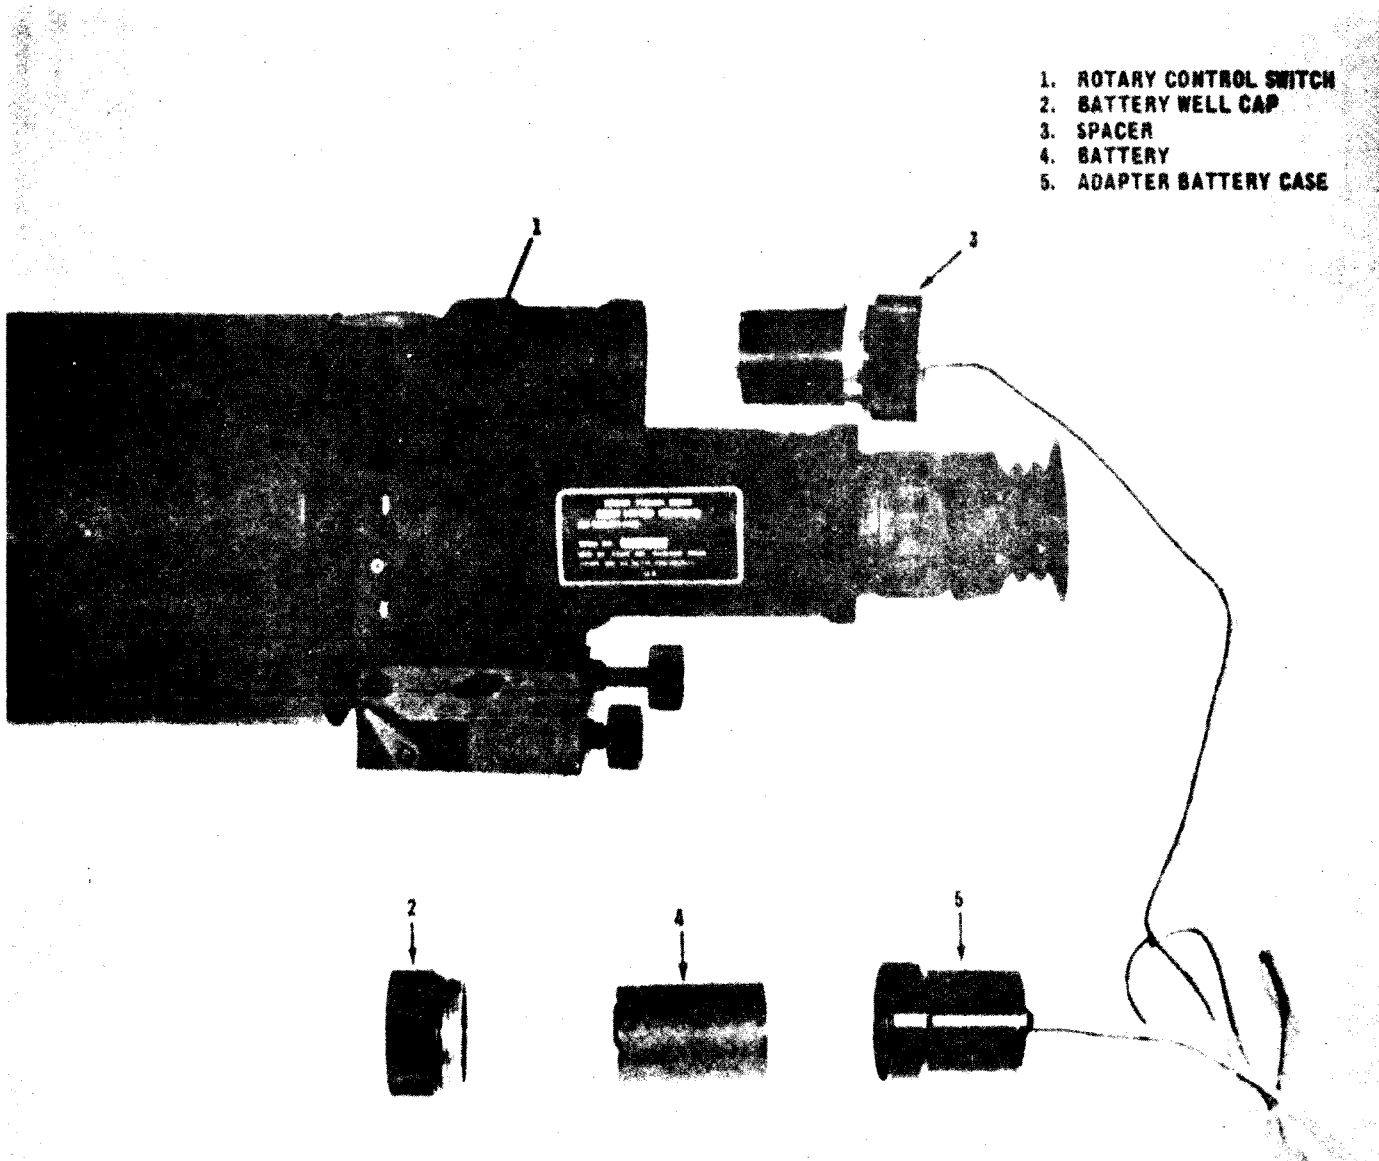
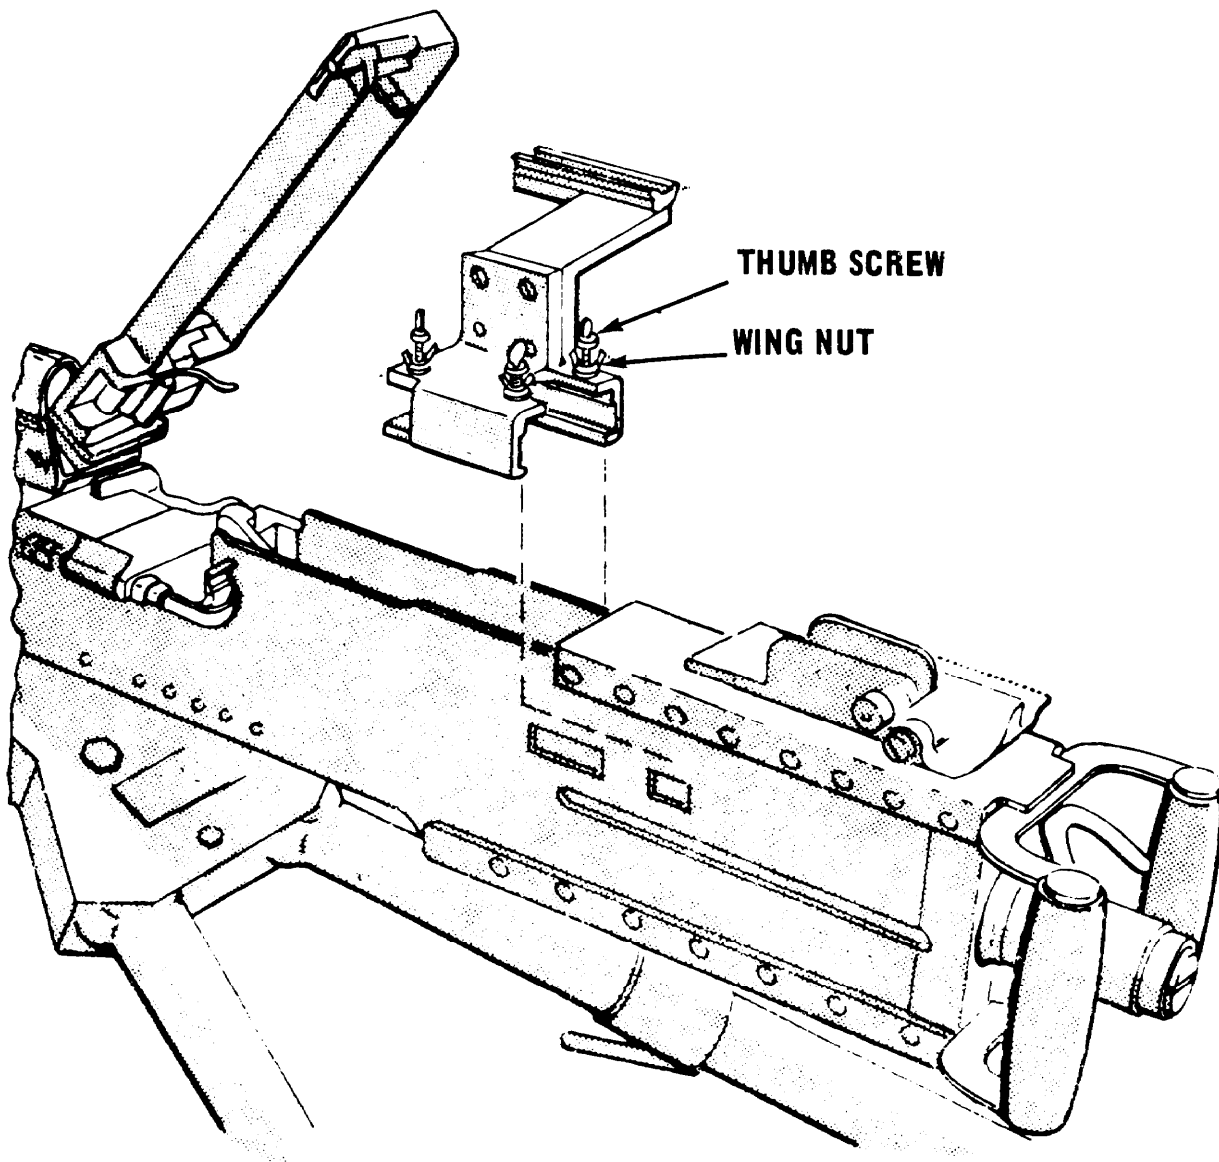

Figure 6. Low temperature adapter installation.
Figure 7. Weapons adapter installation on the caliber .50 machinegun.
*b. Low Temperature Adapter.* If the temperature drops below  $-20^{\circ}$  F., install the low temperature adapter in the following manner (fig 6):
- (1) Turn the rotary control switch (1) to the OFF position.
- (2) Unscrew the battery cap (2) and remove the battery.
- (3) Insert spacer (3) of the low temperature adapter into the battery housing and screw into place.
- (4) Place the battery (4) into the adapter battery case (5), positive end toward wiring as shown in figure 6. Screw the battery cap (2) to the adapter battery case (5).
- (5) Insert the adapter battery case into a pocket to keep the battery warm.
**18. Installation of Weapons Adapter Bracket and Sight on Browning Machinegun Caliber .50 HB M2 (Figs 7 and 8).** The weapons adapter bracket and the Sight are mounted on the caliber .50 machinegun as follows: